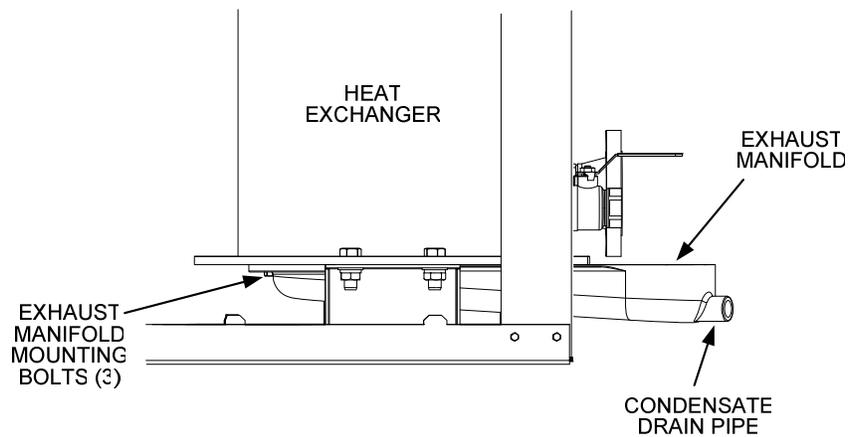

Figure 7. Benchmark 1.5LN Exhaust Manifold Location
The exhaust manifold of the Benchmark 1.5LN is installed at the rear of the unit as shown in Figure 7. Perform the following steps to remove and inspect the manifold:
1. Remove the four (4) bolts securing the flue starter section collar to the top of the exhaust manifold.
4. Using a 3/4" socket wrench, remove the three bolts securing the exhaust manifold to the heat exchanger (Figure 7).